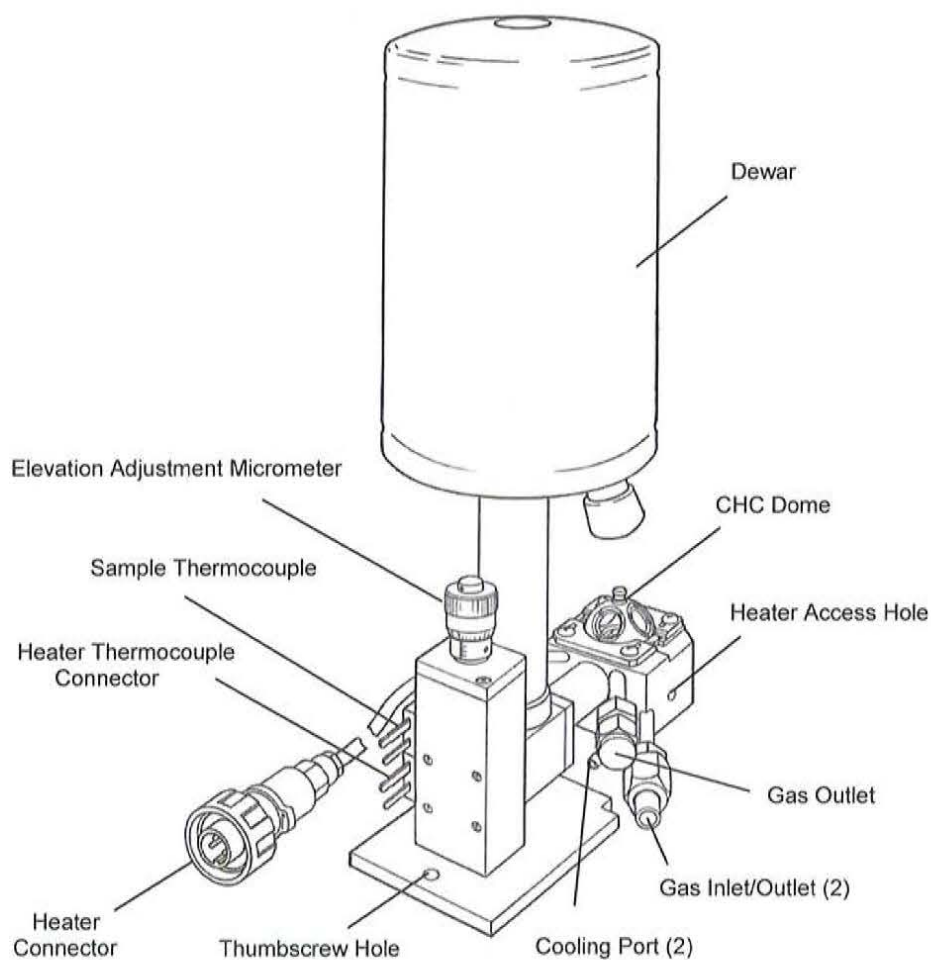

Figure 15 • The Low Temperature Reaction Chamber CHC
Before installing the Low Temperature Reaction Chamber (CHC) familiarize yourself with it by referring to the drawing of the CHC found below (Figure 15).
- Adjust the elevation adjustment micrometer on the CHC (Figure 15) to maximize the signal on the detector.